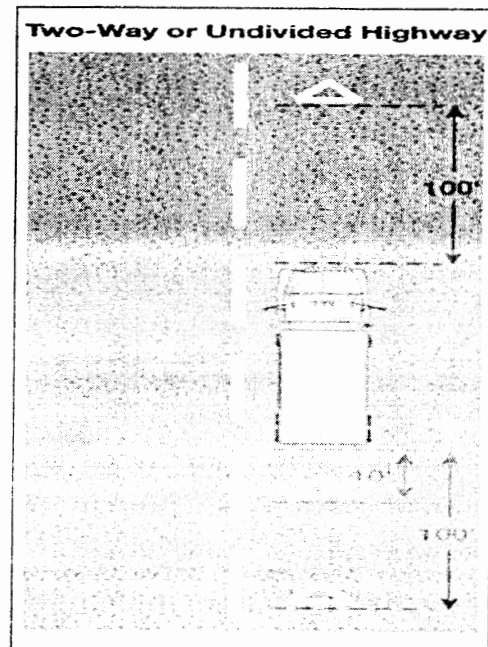

Figure 2.9
- If you stop on a two-lane road carrying traffic in both directions or on an undivided highway, place warning devices within 10 feet of the front or rear corners to mark the location of the vehicle and 100 feet behind and ahead of the vehicle, on the shoulder or in the lane you stopped in. *See Figure 2.9.*